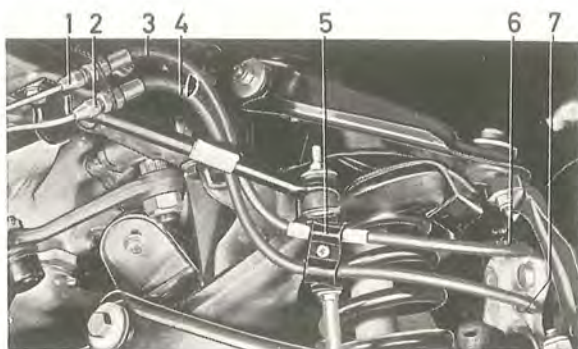

Fig. 5-19. Fitting the front brake hoses
3. Remove the clip (5, Fig. 5-19). Disconnect the connection (2) and the lower hose (4) from the bracket. Place the protective casing on the brake lines to prevent unnecessary leakage. Disconnect the connection (6) for the upper hose from the brake.
2. Fit the hoses and their connection as well as the guide clip as shown in Fig. 5-19. It is important that the hoses are fitted in the correct way, that is, without being tensioned and with the linkage arms unloaded.